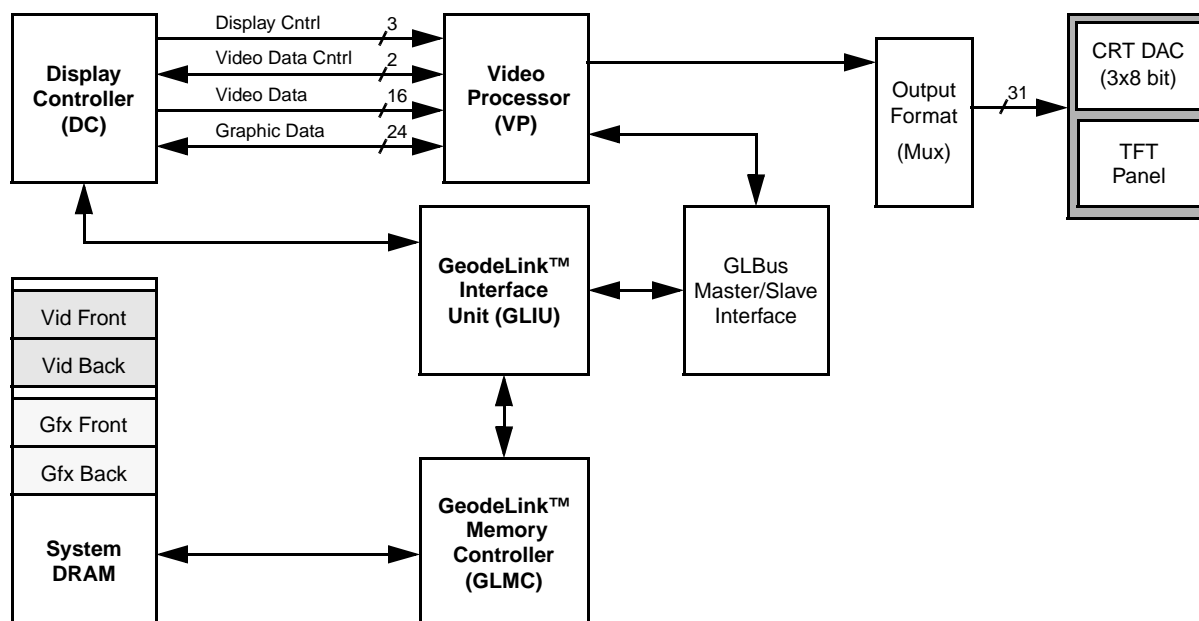

Figure 6-20. Graphics and Video Block Diagram
The Video Processor (VP) module provides a high-performance, low-power CRT/TFT display interface. The scaling, filtering, and color space conversion algorithms implemented in the Video Processor are of much higher quality than those used in software-only video playback systems. The Video Processor is capable of delivering high-resolution and true-color graphics. It can also overlay or blend a scaled true-color video image on the graphic background. For video input, integrated scaling, and X and Y interpolation, enable real-time motion video output. The video path of the Video Processor also contains horizontal and vertical scaling hardware, and an optional YUV-to-RGB color space converter. This motion video acceleration circuitry is integrated into the Video Processor to improve video playback. By off-loading these arithmetic-intensive tasks from the processor, 30 frame-per-second playback can be easily achieved, while keeping processor utilization to acceptable performance levels. The graphics and video path is illustrated in Figure 6-20.